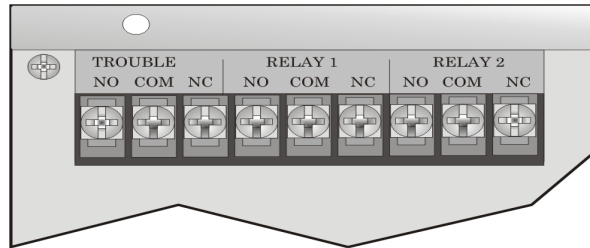

Figure 4-41 Location of Conventional Relay Circuits
1. Wire Relay 1 and/or Relay 2 as needed for your application. See Figure 4-41 for the location of the relay terminals.